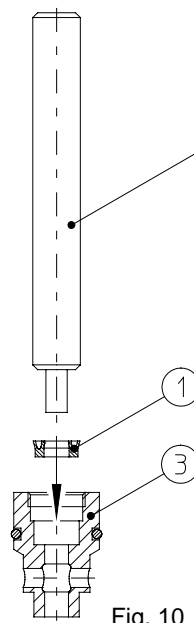

Fig. 10
Place the grooved ring ① on the drift ② – Part nbr. 70641 003002- , and press it into the bushing ③ as far as it will go. (Fig. 10)